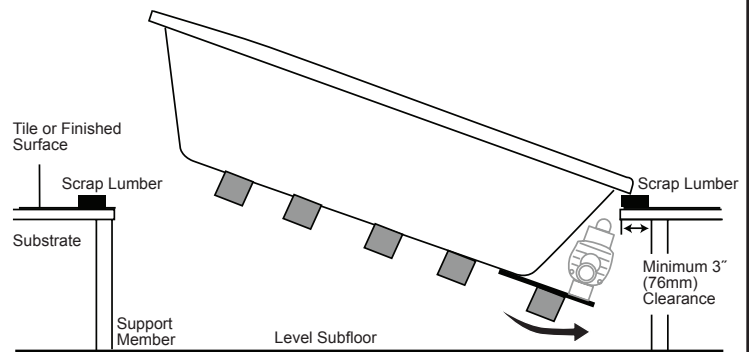

Figure 9
- 7 Place a piece of scrap lumber on each of the ends of the cutout – this will be used as a temporary support prior to lowering the bathtub fully into the opening (Figure 9).